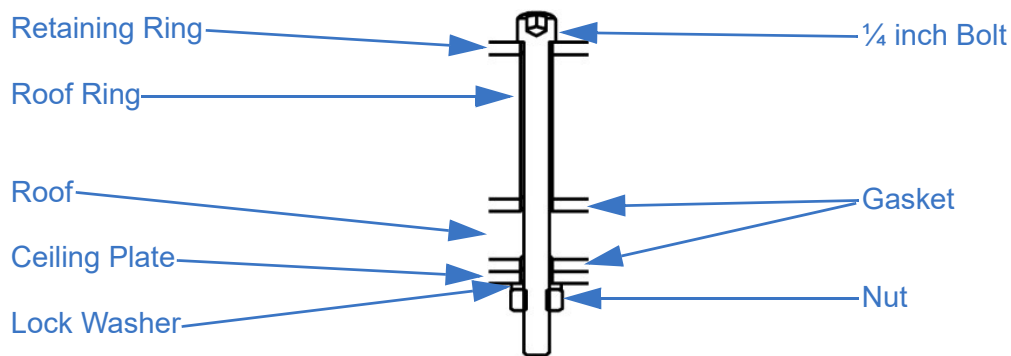

Figure 5-19 Fasten Assembly Together
5. Fasten this assembly (Figure 5-19) together using:
- (8) ¼ Inch (M6) Bolts